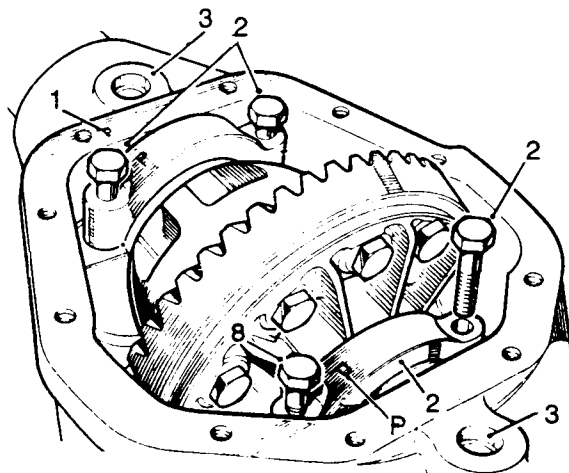

Fig J2.3
- (7) Refer to Fig J2.3. Note the relationship marking on the bearing caps and axle casing (1) to ensure correct refitting.
- (8) Remove the fixings and withdraw the differential bearing caps (2).
- (9) Clean out and examine the spreader tool peg holes (3) provided in the gear casing face; ensure that the holes are free from dirt and burrs and damage.